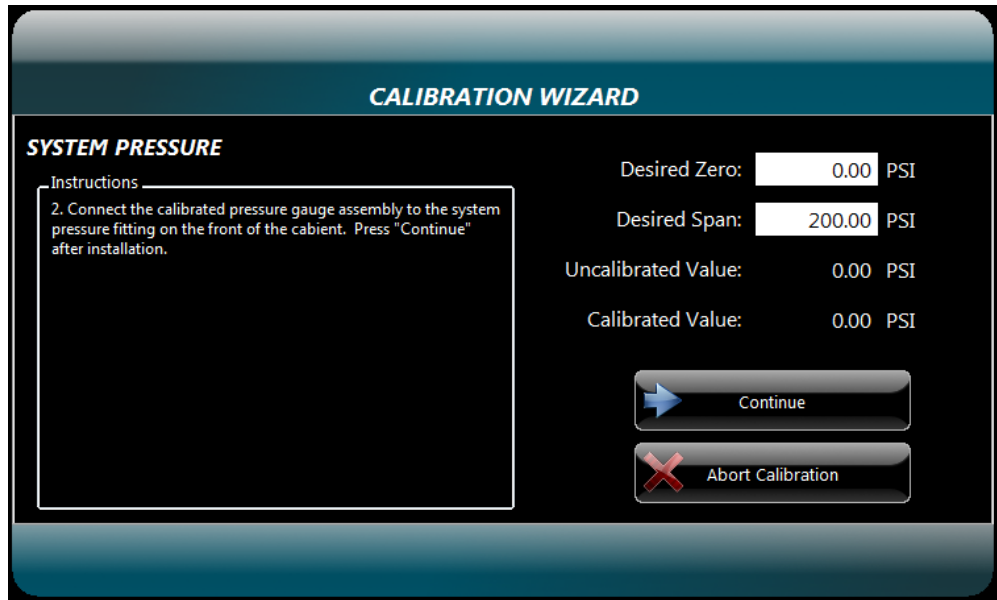

Figure 82 – Pressure Calibration Wizard display
2. Connect the calibrated pressure gauge calibrator to the system pressure fitting on the front of the cabinet (above reservoir). Press 'Continue' after installation (figure 82).